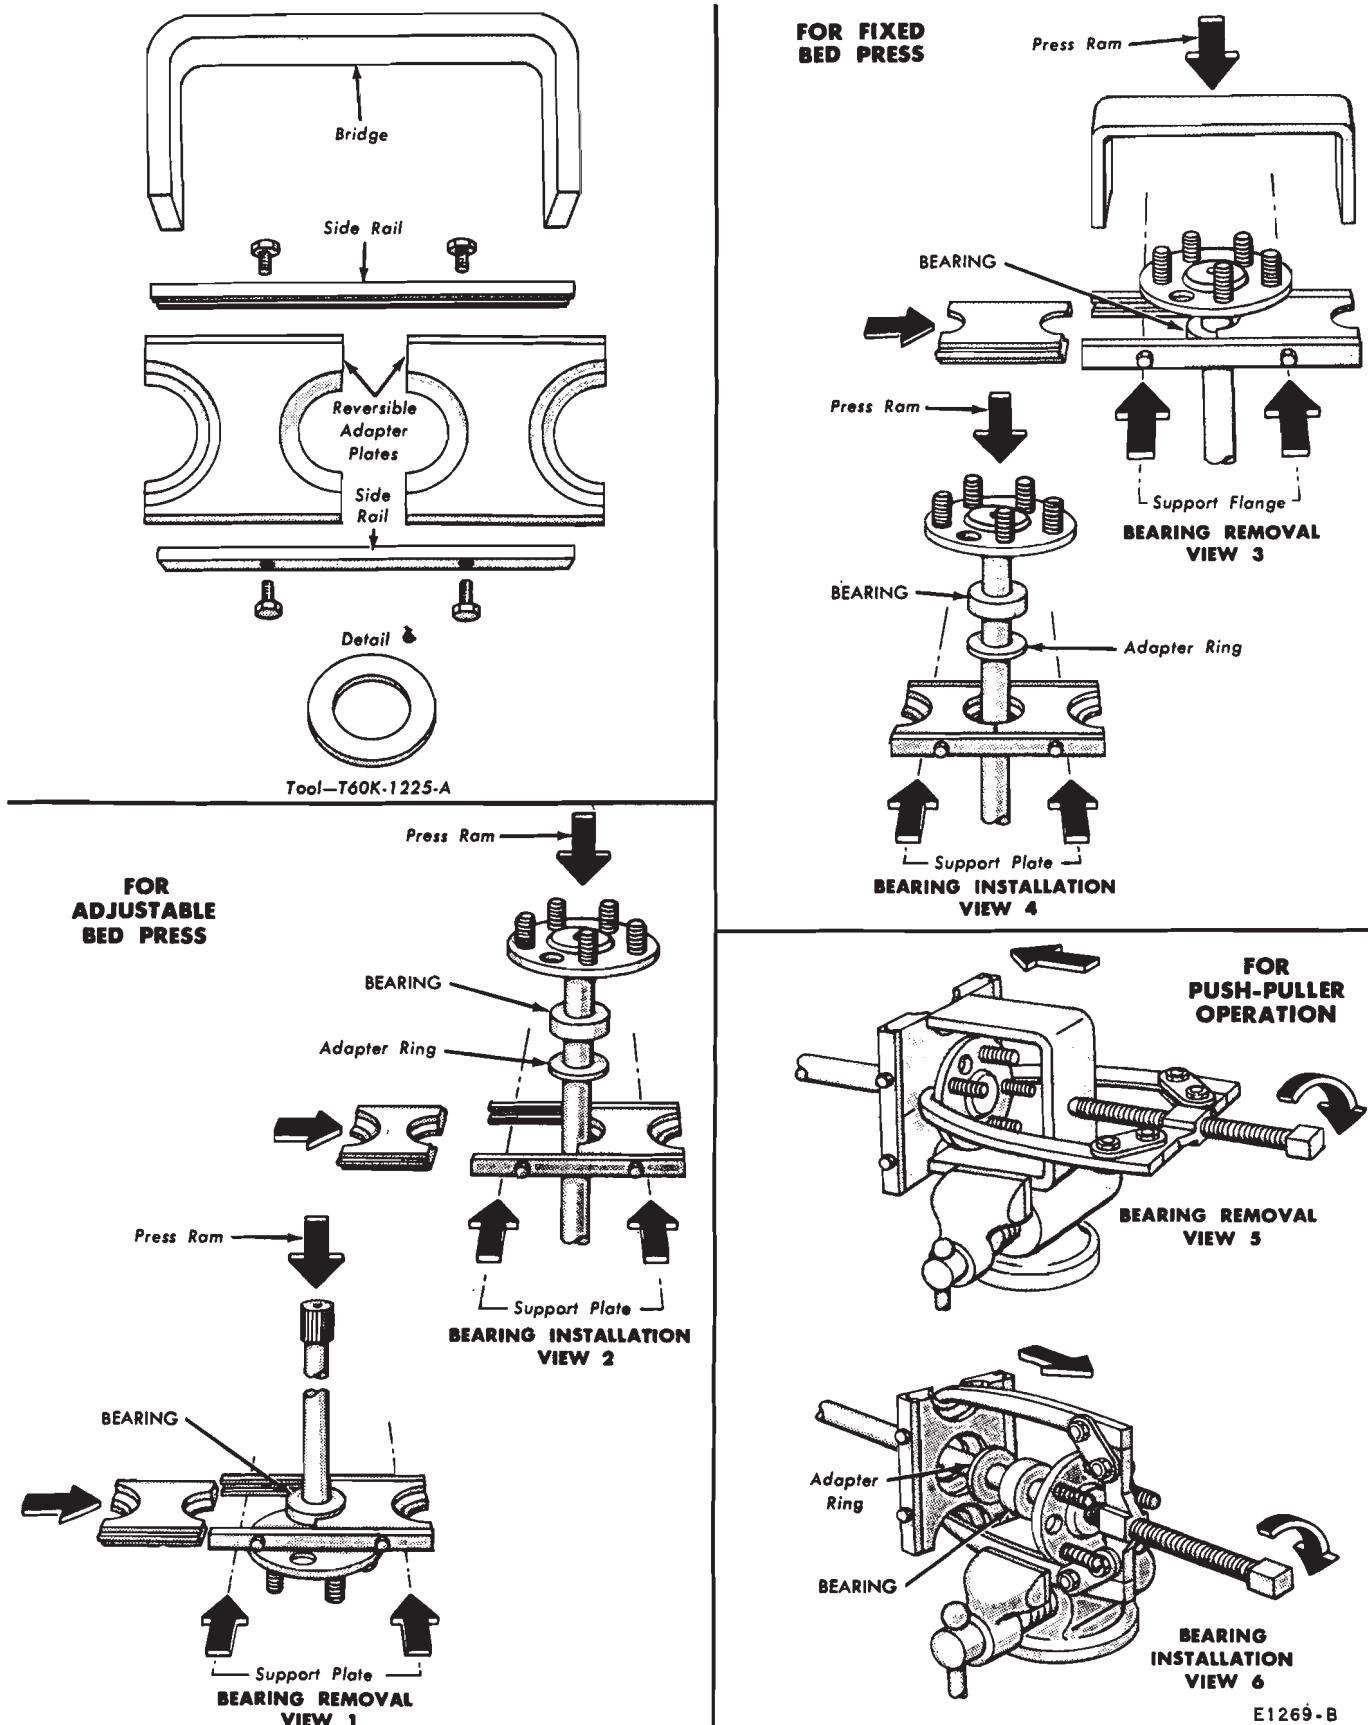
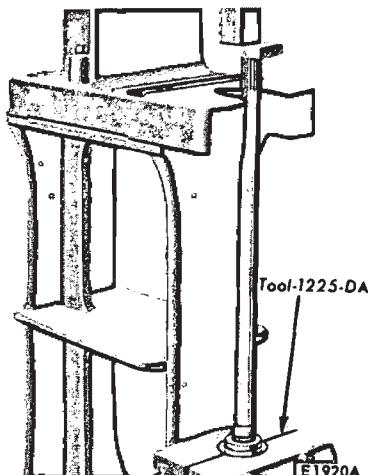
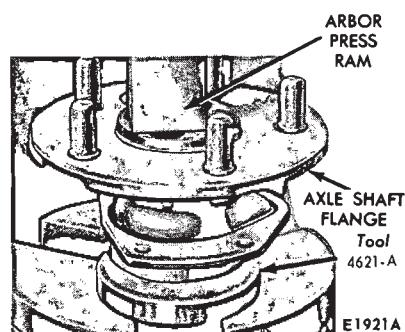

FIG. 6—Removing and Installing Wheel Bearing
FIG. 7—Removing Wheel Bearing
FIG. 11—Installing Wheel Bearing
2. Remove the bearing from the axle shaft with the tool shown in Fig. 6 or Fig. 7.
sor (if so equipped) and the bearing retainer plate on the axle shaft, and press the new wheel bearing on the shaft with the tool shown in Fig. 6 or Fig. 11. Do not attempt to press on both the bearing and the inner retainer ring at the same time.